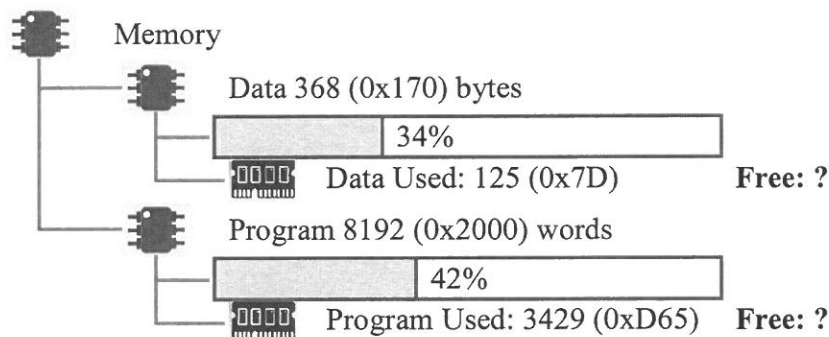

Figure 5(b-2) Memory Usage
- (c) The block diagram of the PIC16F877A analogue to digital converter (ADC) is shown in Figure 5(c)(i). The ADCON0 and ADCON1 registers are shown in Figure 5(c)(ii) and Figure 5(c)(iii) respectively. In this design, an internal voltage reference is selected, input channel 3 is selected, and the ADC is switched on but not running. Assume that channel 0, channel 1, channel 2 and channel 4 are configured as analogue input only. Also, assume that the conversion clock used is  $F_{osc}/4$  with left justification on the result.